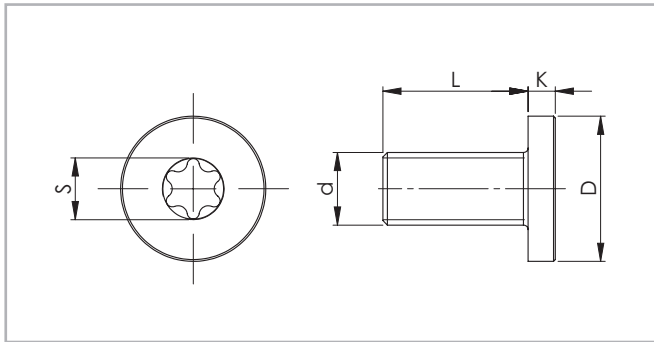

Fig. 72
The screws are included in the scope of supply. All other rails are fixed with counter-sunk or cap head screws as per DIN 7991 or 7984. In size 63 of the ASN and DMS series, Torx® screws with low head cap screws are available on request (see fig. 72).
- Telescopic Rail guides are suitable for continuous use in automatic systems. For this, the stroke should remain constant in all moving cycles and the operating speed must be checked (see pg. TR-44, fig. 72). The movement of the telescopic rails is enabled by internal ballcages, which could experience an offset from the original position with differing strokes. This phase offset can have a negative effect on the running properties or limit the stroke. If differing strokes occur in an application, the drive force must be sufficiently dimensioned in order to appropriately synchronise the ballcage offset. Otherwise, an additional maximum stroke must be planned regularly to ensure the correct position of the ballcage.